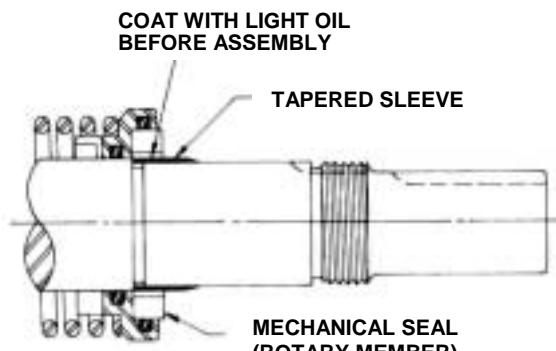

FIGURE 9
6. Place tapered installation sleeve on shaft, Refer to Figure 9. Sleeve is furnished with H, HL, K, KK, L, LQ and LL size replacement mechanical seals. Sleeve for Q and M size pumps may be purchased from Viking Pump at additional cost. Coat rotor shaft, tapered installation sleeve and inner diameter of mechanical seal rotary member with a generous amount of non-detergent SAE 30 weight oil. Petrolatum may be used but grease is not recommended.